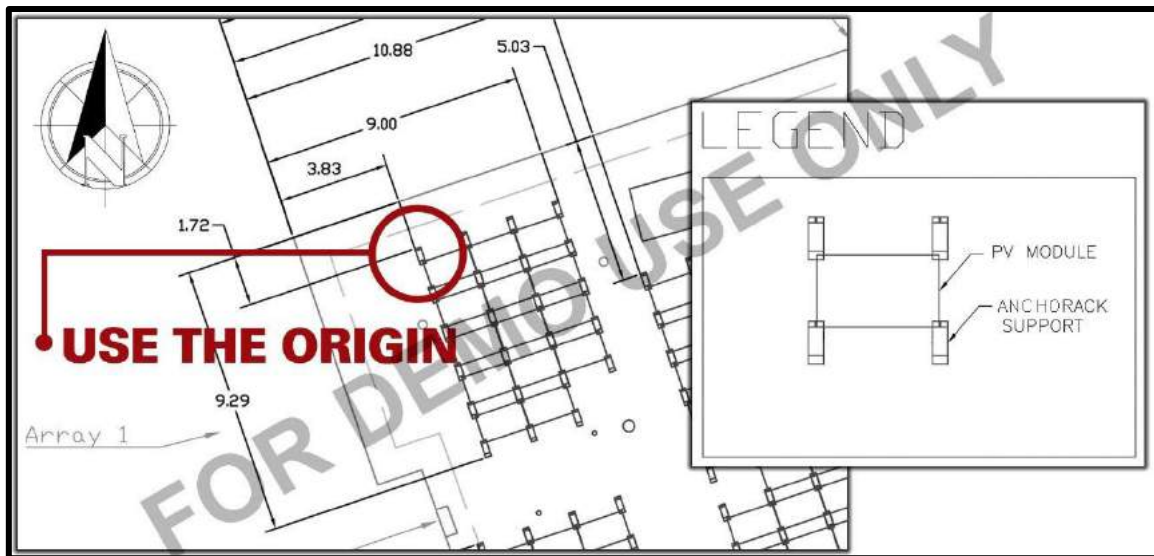

Figure 1- Sample Layout Diagram
- 1 Place your first corner support for an array. Refer to your project specific *Layout Diagram* for dimensions (see Figure 1).